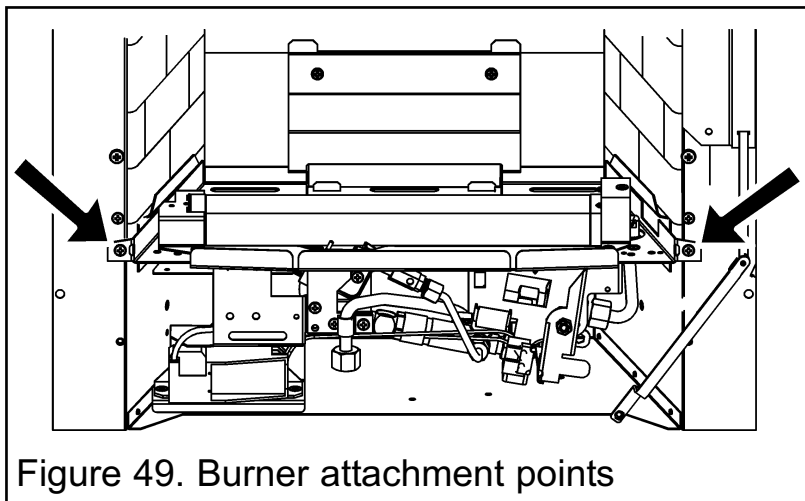

Figure 49. Burner attachment points
4. Detach the burner unit from the convection box by removing two screws (See figure 49).